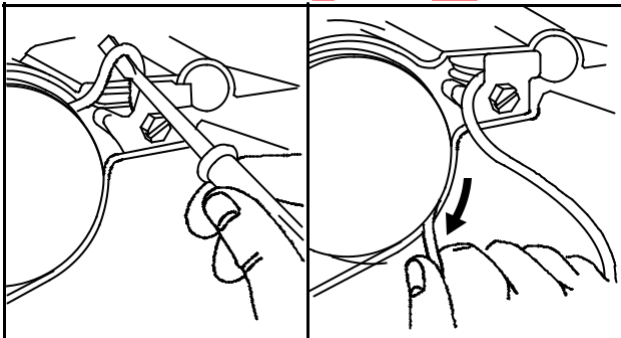

Fig. 634 – ADDING TENSION TO ROPE
16. Wind rope and pulley 2 or 3 turns clockwise to achieve proper rope tension, Fig. 634.